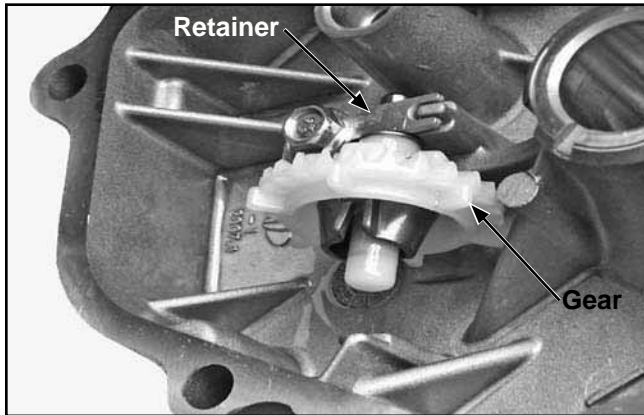

Figure 8-49. Removing Governor Gear, Retainer.
1. Remove the hex flange screw and the retainer securing the governor gear. See Figure 8-49.